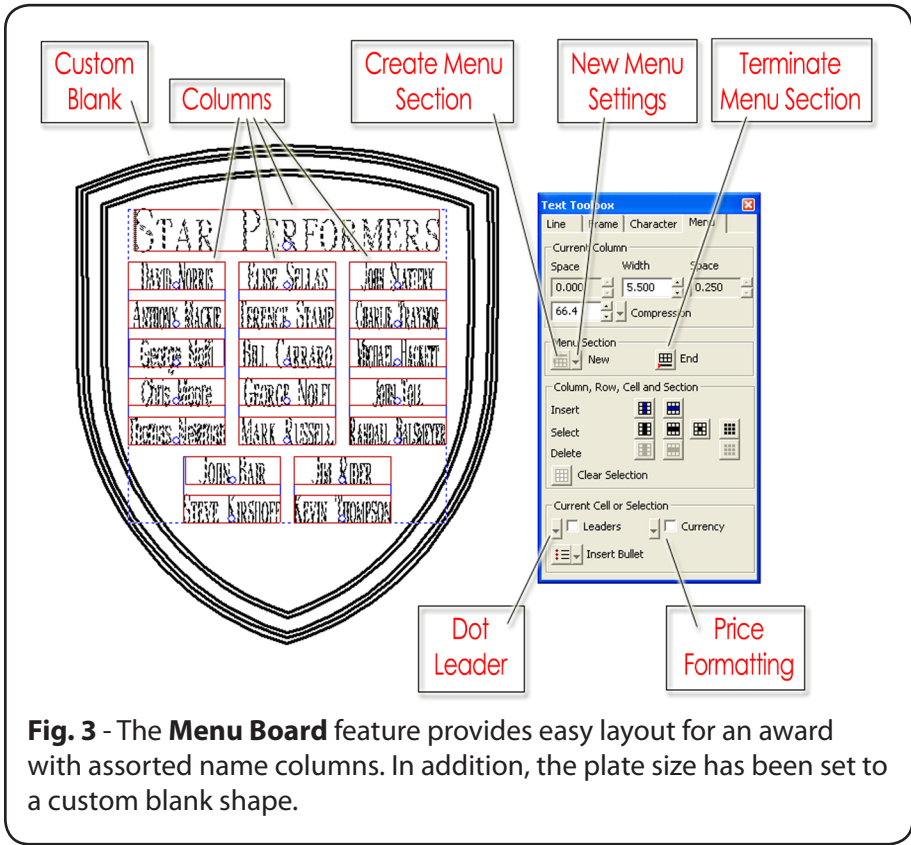

Fig. 3 - The **Menu Board** feature provides easy layout for an award with assorted name columns. In addition, the plate size has been set to a custom blank shape.
- **Easy Menu Board Creation** - As part of the new Text Compose interface, interactive tools have been introduced for constructing menu boards, which can also be used to align trophy entries with ease (Fig. 3).
- **Realistic Engraving Blanks** - As opposed to a simple rectangular plate size, set a custom blank that has unusual shapes or contours, such as trophies or atypical door plates (Fig. 3).